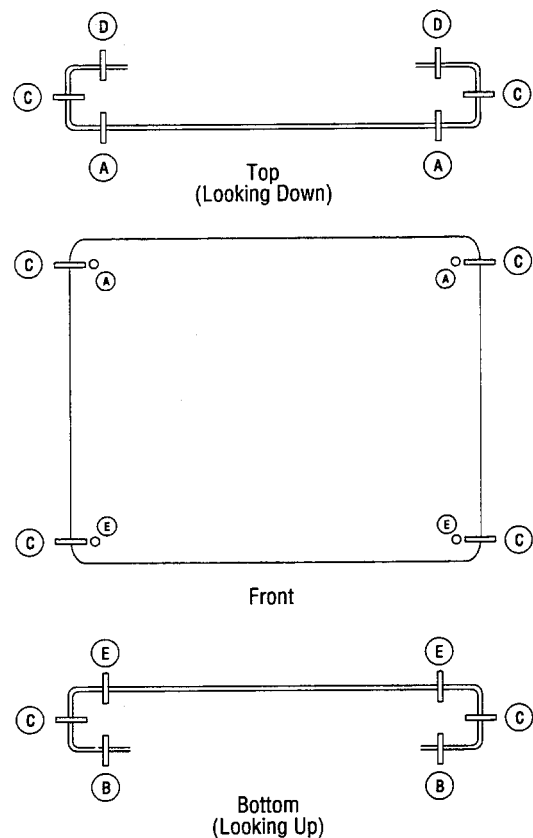

Figure 8-1. Door Guide Adjustment
Refer to Figure 8-1. This figure shows the door from a top, front, and bottom view with the door cover removed. 12 adjustment screws are used to properly position the door. Each screw has a nylon tip to allow the door to slide properly. Prior to adjusting, visually inspect each screw to verify that the nylon tip is intact. Replace any screws missing its nylon tip.
1. Front screws — top left and right (designated "A" on Figure 8-1)
2. Rear screws — bottom left and right (designated “B” on Figure 8-1)
3. Side screws — right and left, top and bottom (designated “C” on Figure 8-1)
4. Rear screws — top left and right (designated “D” on Figure 8-1)
5. Front screws — bottom left and right (designated “E” on Figure 8-1)